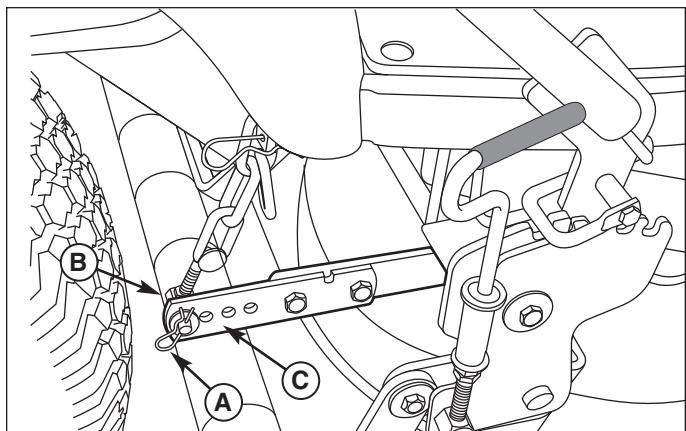

Figure 7. Mower Deck Removal and Installation
4. Disconnect the hair pins (A, Figure 7) from the trunnions (B) on both sides of the mower deck. Remove trunnions (B) from mower deck lift arms (C). Re-install the hair pins (A) to prevent loss.
6. Connect the trunions (B, Figure 7) to mower deck lift arms (C) secure with hair pins (A).